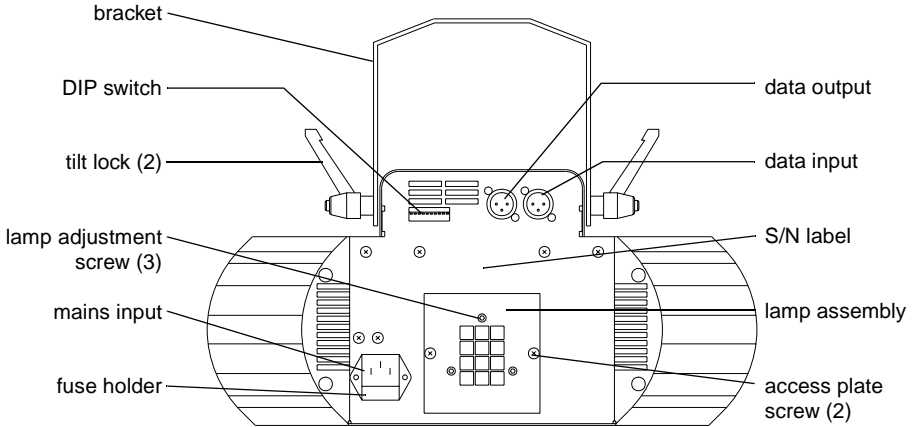

Figure 1: Rear view
1. Remove the 2 lamp access screws from the lamp assembly and gently remove the assembly. See Figure 1.